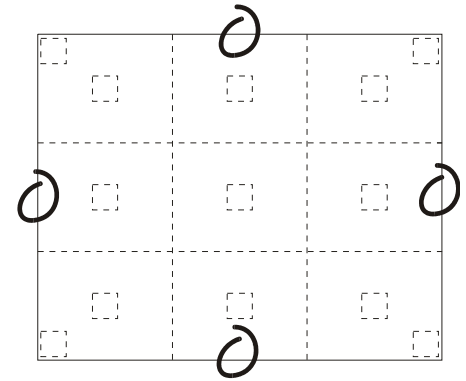

FIGURE 3-35 -13-POINT TEST PATTERN
- c. Select the 13-Point test pattern for display. This pattern provides nine screen “zones” with 13 targets, see Figure 3-35.